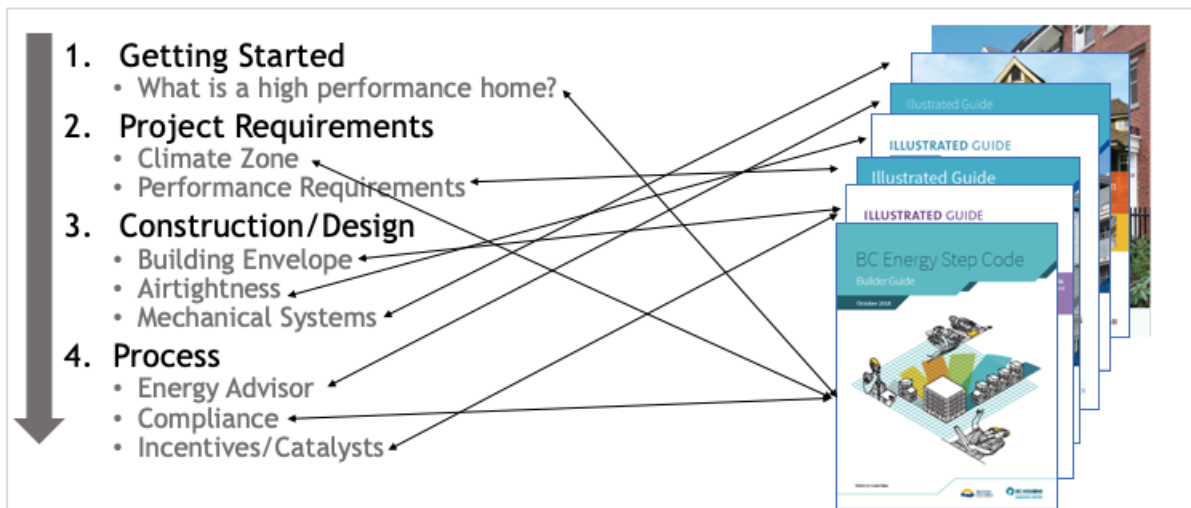

Figure 2 - Exemplification of the Toolkit Linking to Existing Documentation
- Figure 2- Exemplification of the Toolkit Linking to Existing Documentation \_\_\_\_\_ 3
In response, the Zero Emissions Building Exchange, ZEBx, has created the “Net-Zero Energy Ready Residential Buildings Toolkit” for Part 9 residential construction, herein referred to as the “Toolkit”. The Toolkit is a curated “meta resource” which gathers, organizes, and links to the most relevant sections of the high-performance building documents, as shown in Figure 2 below.